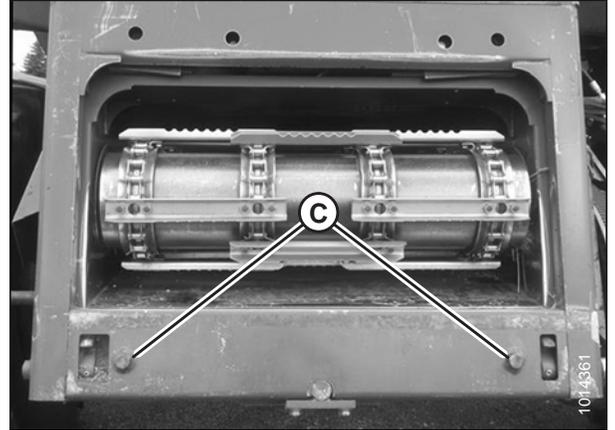

Figure 4.22: Alignment Pins on Feeder House
2. Start engine and slowly approach header until feeder house is directly under adapter top cross member (A) and alignment pins (C) on feeder house (shown in Figure 4.22, page 229) are aligned with holes (B) in the adapter frame.